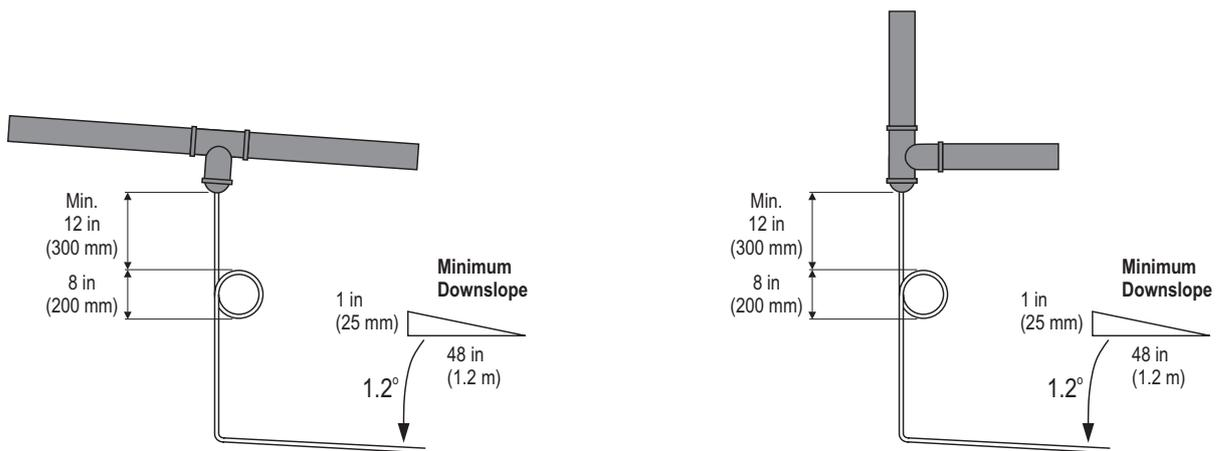

Figure 19: Condensate Drain Lines
- Condensate lines must connect into full size "Tee" fittings in the steam line. Refer to Figure 19.